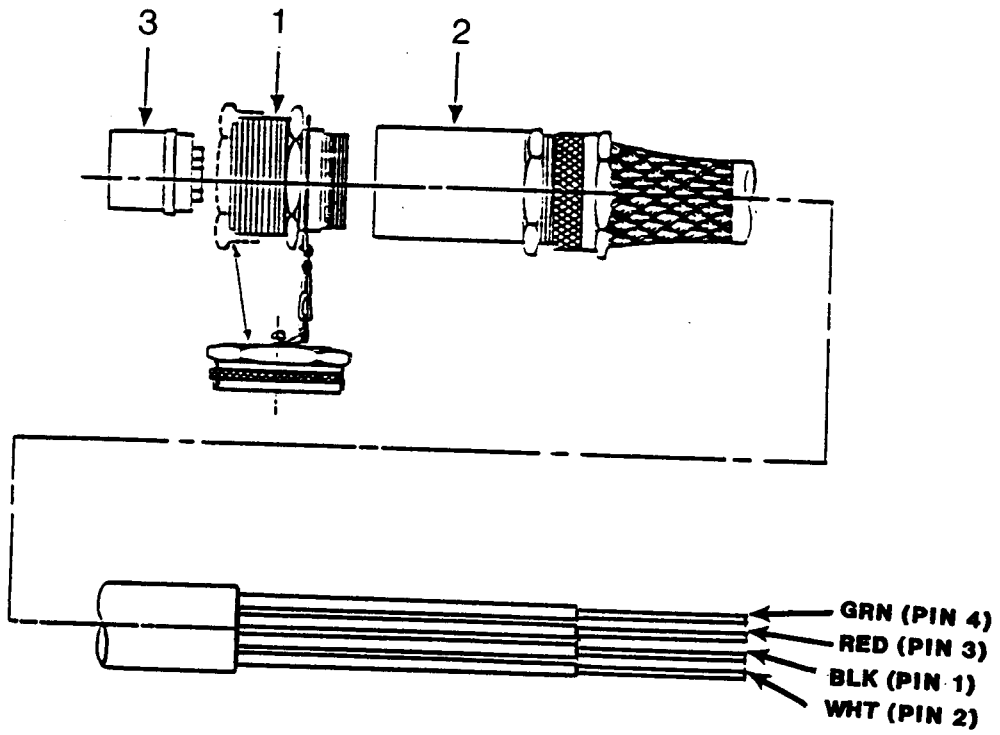

Figure 5-1. Main Power Cable Assembly
- a. Inspect. (See Figure 5-1.)
a. Inspect. - Continued (See Figure 5-1.)
(2) Inspect main power cable assembly for general condition of insert, barrel, cable adapter, and protective cap.
(3) Inspect metal parts of main power cable assembly for corrosion.
b. Repair. (See Figure 5-1.)
(1) Loosen the connection on the main power cable assembly between the female barrel (1) and cable adapter (2) and separate unit.
(2) Separate the female barrel (1) and female insert (3) on the main power cable assembly.
(3) Install female barrel (1) and female insert (3) of the main power cable assembly in the threaded portion of the cable adapter (2) and tighten.
b. Repair. - Continued (See Figure 5-1.)